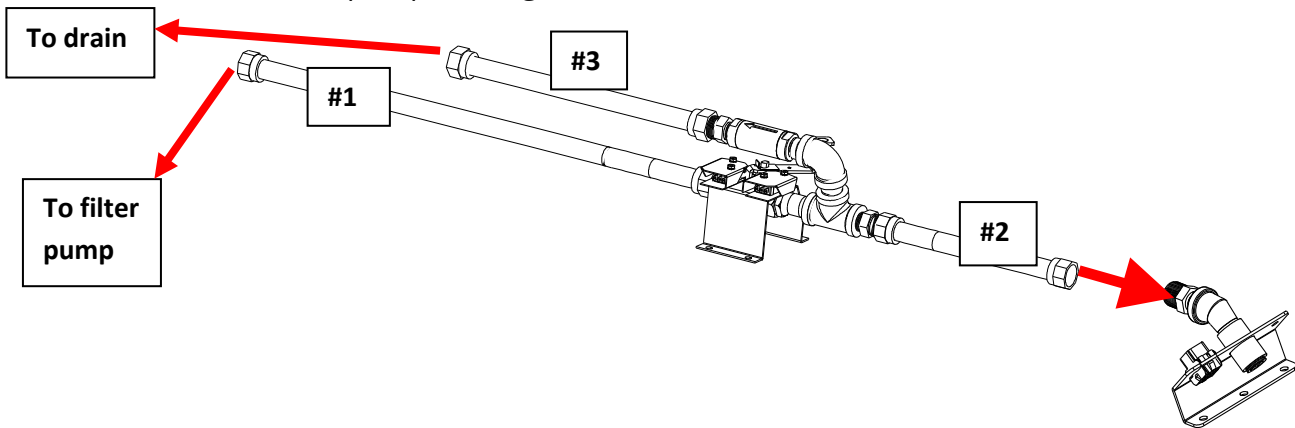
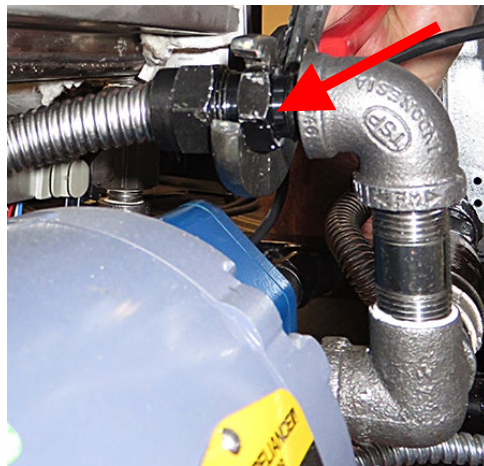
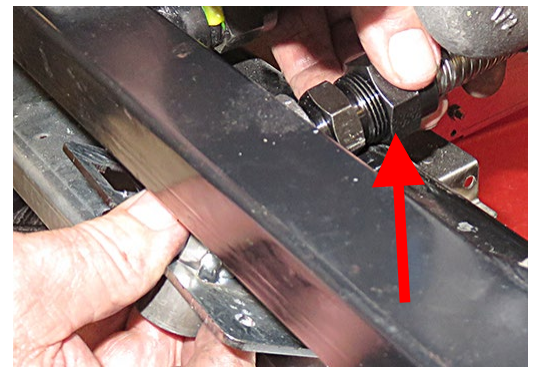
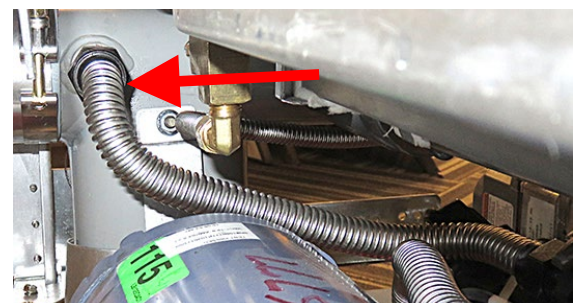

Figure 27
Figure 28
Figure 31
Figure 39
31. Using Figure 27 below as a guide, route the flexline #1 (below) over the pump and attach to the outlet of the filter pump (see Figure 28).
34. Attach the flexline #2 (see previous page) from the dispose switch assembly in Figure 27, to the dispose outlet assembly (see Figure 31).
43. Attach the #3 flexline (see Figure 27) from the check valve to connector attached to the drain tube in the previous step (see Figure 39).